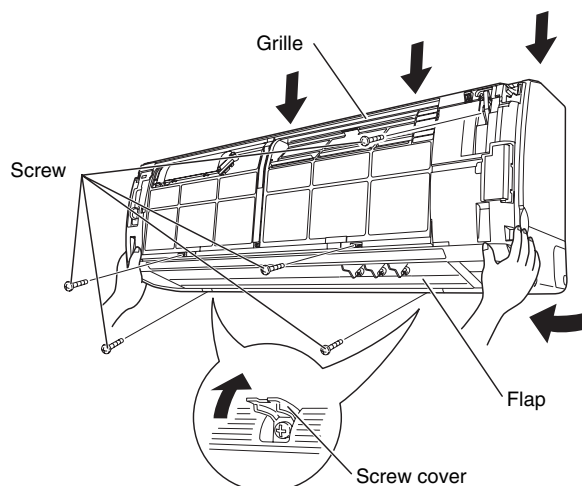

Fig. 10
- (2) Remove the 3 screws from the frame. Also remove the 2 screws where the screw covers are open. (Fig. 10)
- (3) Press the 3 tabs on the top of the grille to disengage them. (Fig. 10)
- (4) Pull the grille toward you to remove it. (Fig. 10)